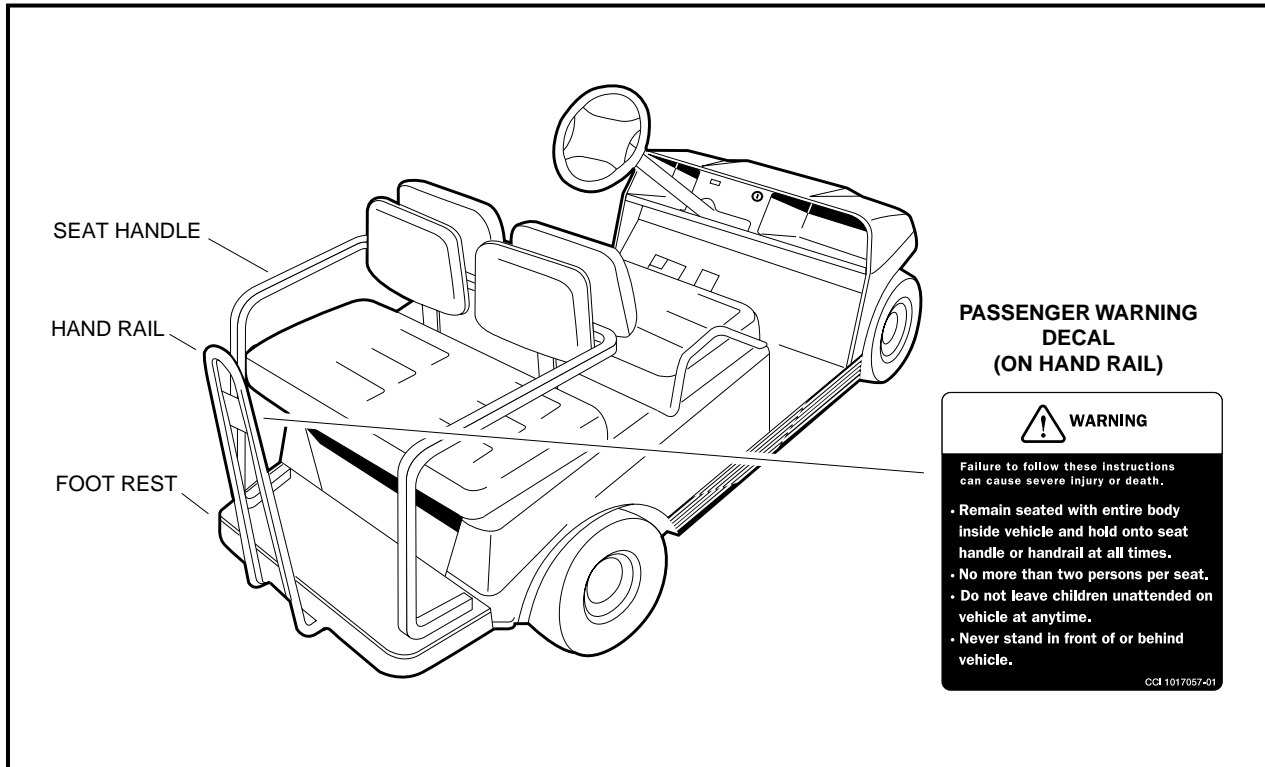

Figure 17 Fairway Villager
- PASSENGERS SHOULD HOLD ON TO SEAT HANDLES OR HAND RAILS AT ALL TIMES (**FIGURE 17, PAGE 26**). DRIVER SHOULD KEEP BOTH HANDS ON THE STEERING WHEEL WHILE VEHICLE IS MOVING.